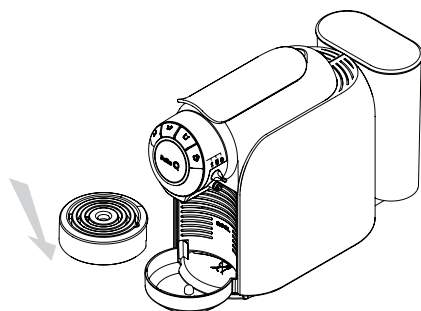

Fig. 12: Lower the cup tray.
- If the cup is higher than the distance between the tray and the extraction nozzle, lower the cup tray (see **Fig. 12**). Put a tea cup (with capacity exceeding 180cc) on the cup tray under the extraction nozzle (see **Fig. 13**).